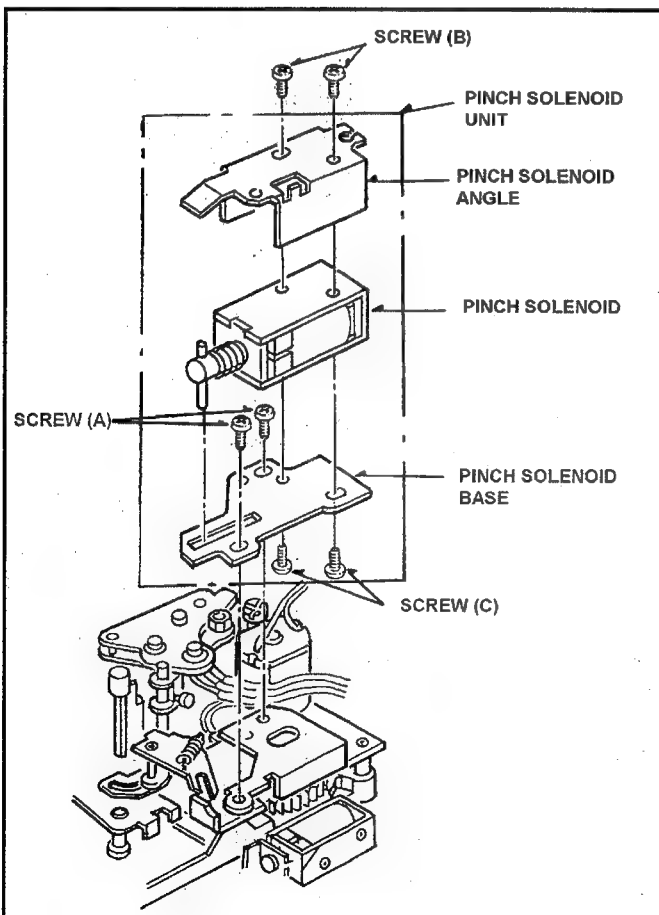

Fig. 10-9-1. Removal of Pinch Solenoid
4. Unscrew the **2 screws (A)** and remove the Pinch Solenoid Unit as shown in Figure 10-9-1.
5. Unscrew the **2 screws (B)** and remove the Pinch Solenoid Angle as shown in Figure 10-9-1.
6. Unscrew the **2 screws (C)** and remove the Pinch Solenoid from the Pinch Solenoid Base.